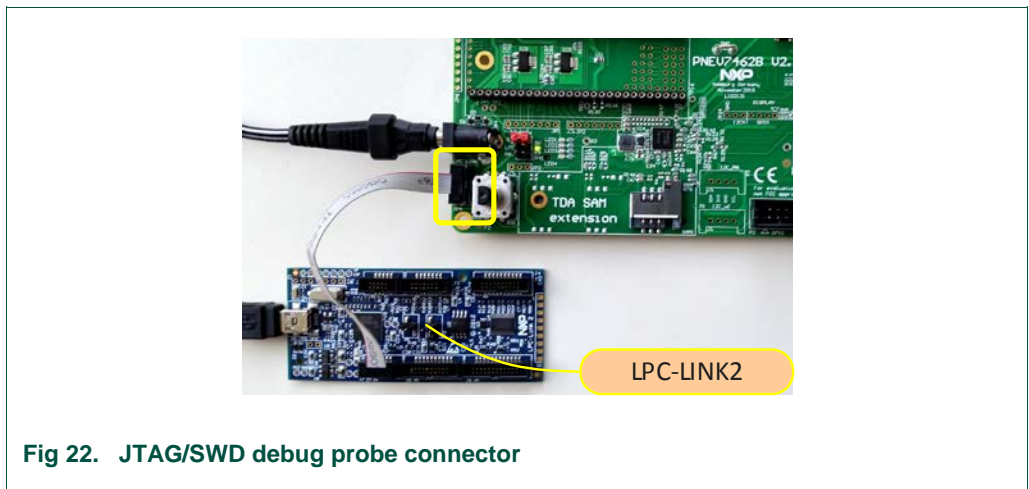

**Fig 21. Host Interface selection - HSU**
The yellow marked jumpers (Fig 21) needs to be set to select HSUART host interface. This will connect the UART\_RX of the PN7462AU to the I/O P0(0), UART\_TX of the PN7462AU to the I/O P0(1) of the LPCXpresso board extension m-bed connector.